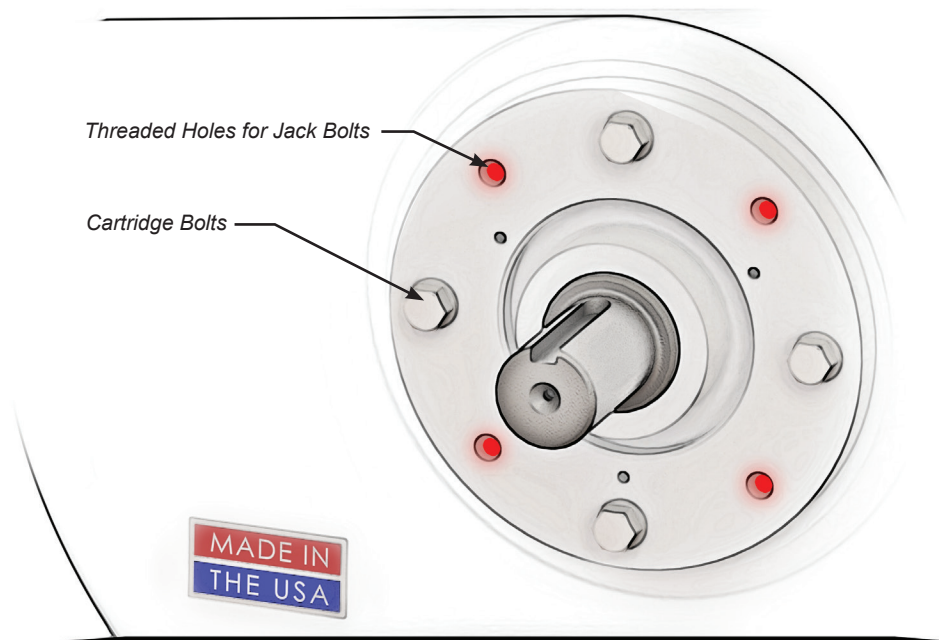

FIGURE 10
10. Remove cartridge bolts (Figure 10)
12. Alternately tighten opposing jack bolts (Figure 10)  $\frac{1}{4}$  turn at a time until cartridge can be pulled from endplate. Properly dispose of cartridge.